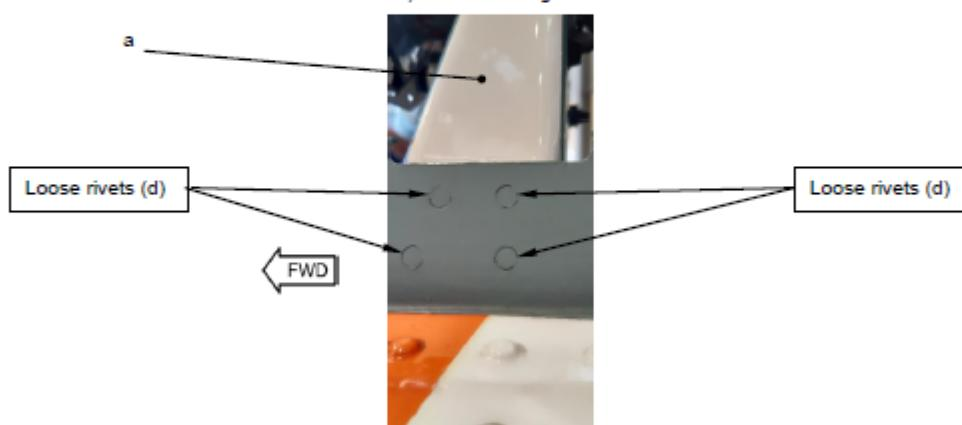

Figure 2
- Cut and remove the Teflon tape (c) on the hatched area (A) with the cutter (yy) (not shown).
**3.B.2.d. Visual inspection of the rivets head of the rear bearing support under the Teflon tape (Figure 2)**
*A loose rivet is a rivet with black mark or missing paint around the rivet head, refer to the Figure 2.*